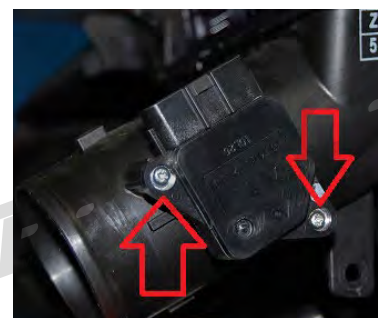

Figure 3
E) Using the small Phillips Screwdriver, remove the two screws (**Red Arrows** in **Figure 3**) that connect the MAF Sensor to the airbox, and remove the sensor from the airbox using a twisting/pulling motion. Turning while pulling will ensure that the O-Ring does not get damaged.